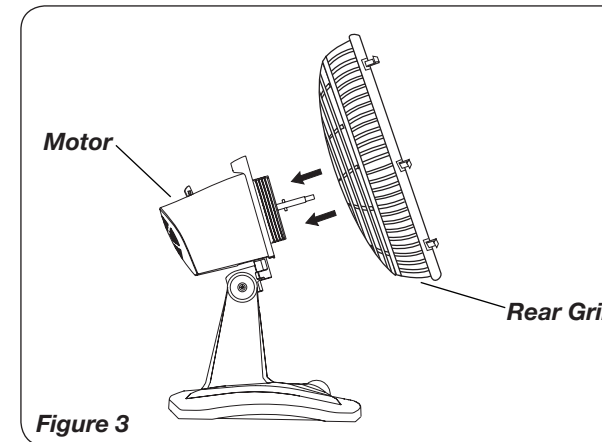

Figure 3
3. Tilt fan head back. Put *Rear Grill* on *Motor*. (Figure 3)